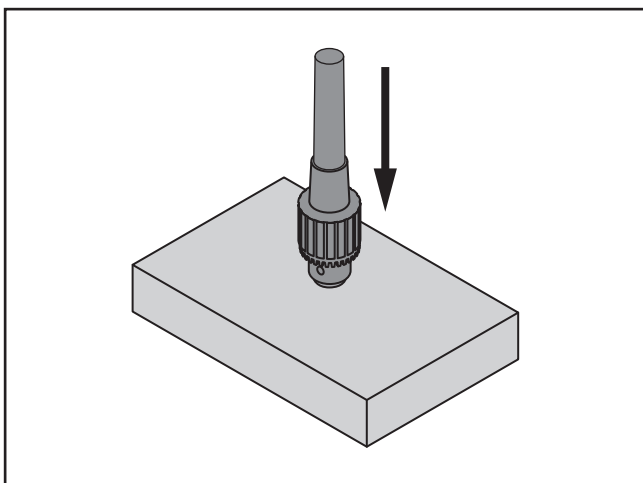

Figure 58. Tapping drill chuck/arbor on block of wood.
4. Hold assembly by arbor and tap chuck onto block of wood with medium force, as shown in **Figure 58**.